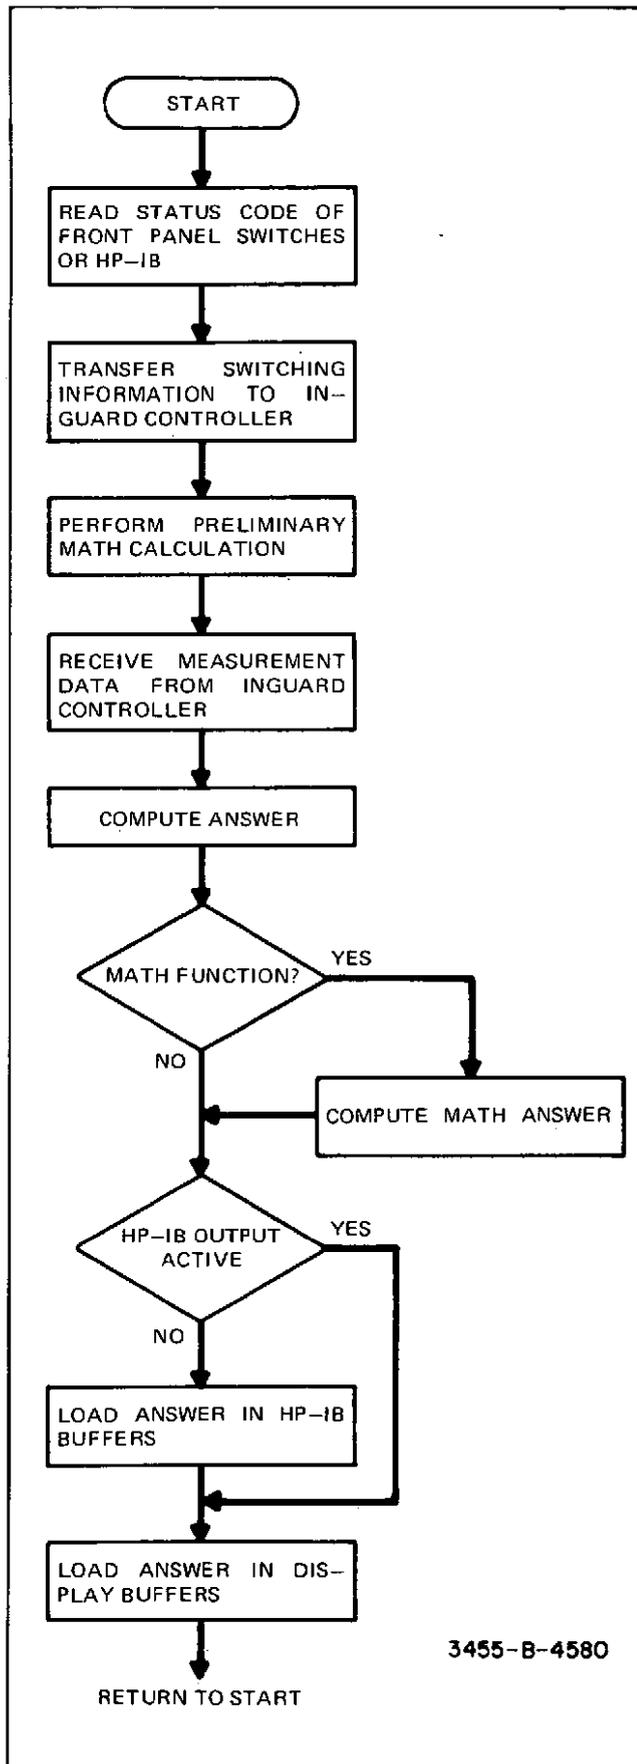

Figure 8-37. Simplified Main Controller Flowchart.
communication between the front panel, HP-IB interface, display and inguard section of the multimeter and to perform mathematical calculations to correct measurement data and provide measurement scaling or percent error readings. The following is an explanation of the operations performed by the main controller as illustrated in Figure 8-37.
- c. During the time the inguard controller is setting the switches and making the required measurements, the main controller computes the constants used to correct the measurement data. This step is shown in Figure 8-37 as "perform preliminary math calculations" and involves combining the offset error and full scale error readings, relevant to the measurement being made, into two constants.